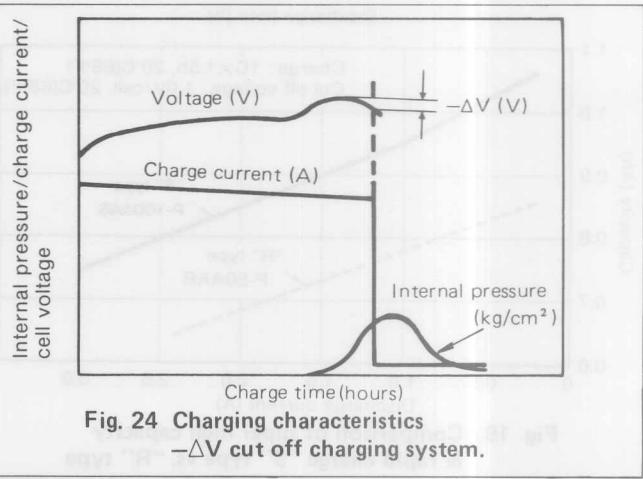

Fig. 24 Charging characteristics
- (A) This system cuts-off the high-rate charge current by detecting the drop in voltage in the cell after voltage has reached its peak during charge (Fig. 24).